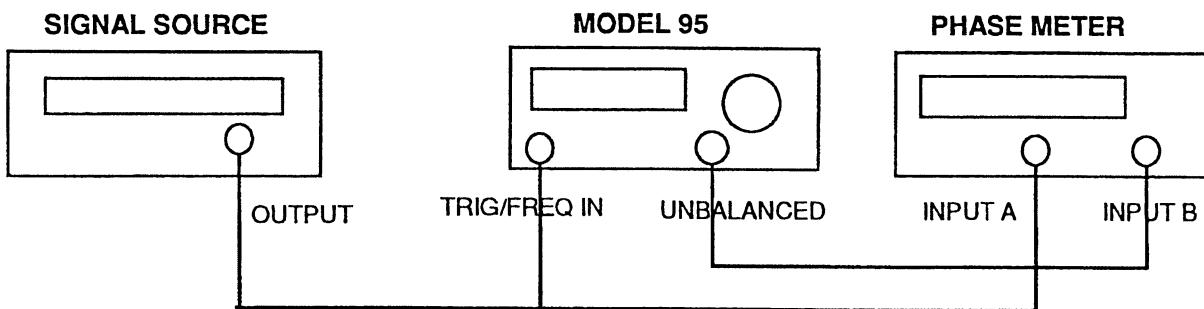

Figure 4-18. Phase Setup
1. The Model 95 displays PHASE0Y XXXXX where XXXXX represents a calibration value. Connect the test equipment as shown in figure 4-18. Appendix B contains an alternate method of calibrating phase using a scope.
1. The Model 95 displays PHASE+180Y XXXXX where XXXXX represents a calibration value. Leave the test equipment connected as shown in figure 4-18. Do not change the signal source. Appendix B contains an alternate method of calibrating phase using a scope.
1. The Model 95 displays PHASE-180Y XXXXX where XXXXX represents a calibration value. Leave the test equipment connected as shown in figure 4-18. Do not change the signal source. Appendix B contains an alternate method of calibrating phase using a scope.
1. The Model 95 displays SQ PHASE 0 XXXXX where XXXXX represents a calibration value. Leave the test equipment connected as shown in figure 4-18. Do not change the signal source. Appendix B contains an alternate method of calibrating phase using a scope.